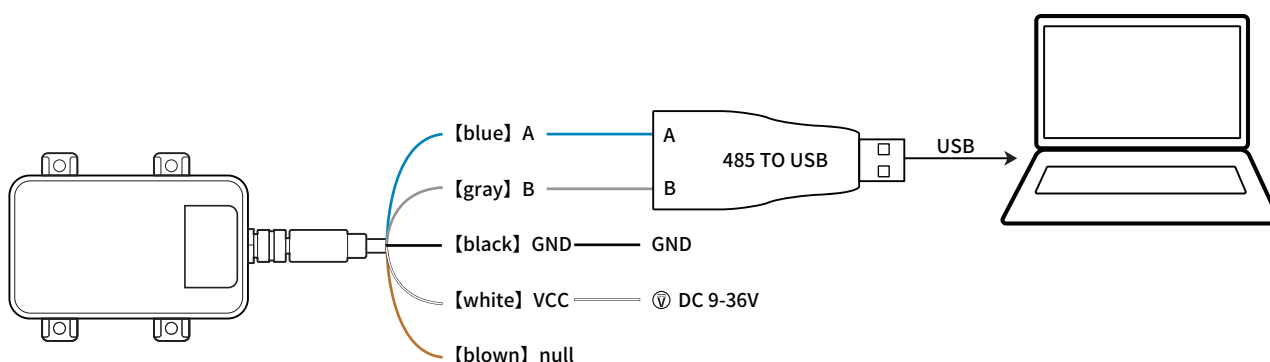

Figure 2. L2s/L2s-Filled wiring diagram (brown wire is not connected)
1. As Shown in Figure 2, connect the blue wire to the 485 to USB converter's A (some manufacturer label it as T/R+), and grey wire to the 485 to USB converter's B (some manufacturer label it as T/R-);